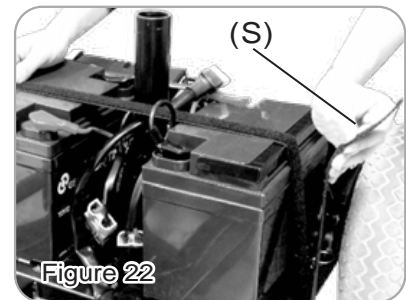

Figure 22
Unstrap the Velcro Band (S) that holds the batteries. (See Fig. 22).